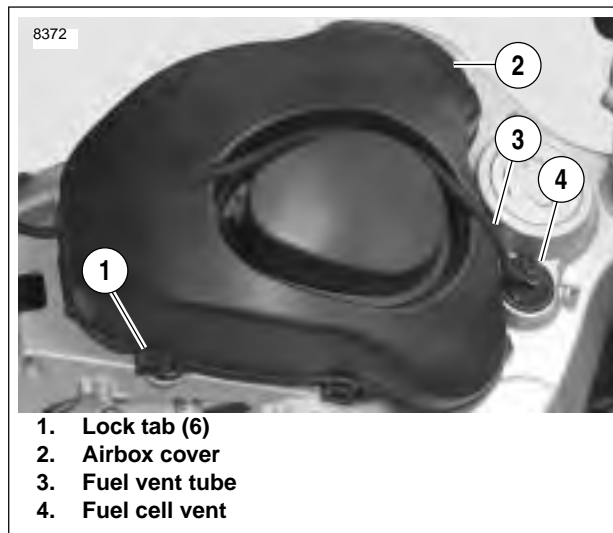
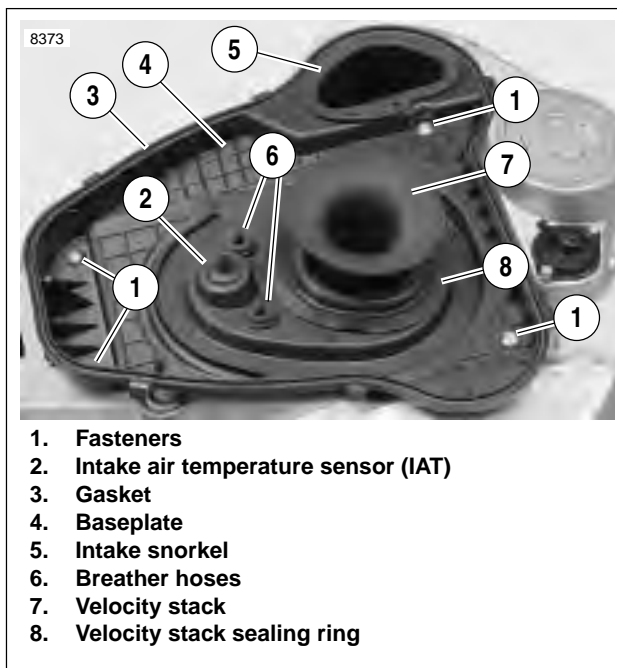

Figure 4-109. Airbox Cover (XB9S)
Figure 4-111. Base Plate (All Models)
2. See Figure 4-109. Remove fuel vent tube (3) from fuel cell vent (4) and groove on top of airbox cover (2).
3. Unlatch six lock tabs (1) and remove airbox cover from baseplate.
5. See Figure 4-111. Remove air cleaner base plate.
- a. Remove four fasteners (1) and raise baseplate (4).
- e. Lift baseplate off of frame, carefully disengaging baseplate from rubber sealing ring (8) on velocity stack (7).